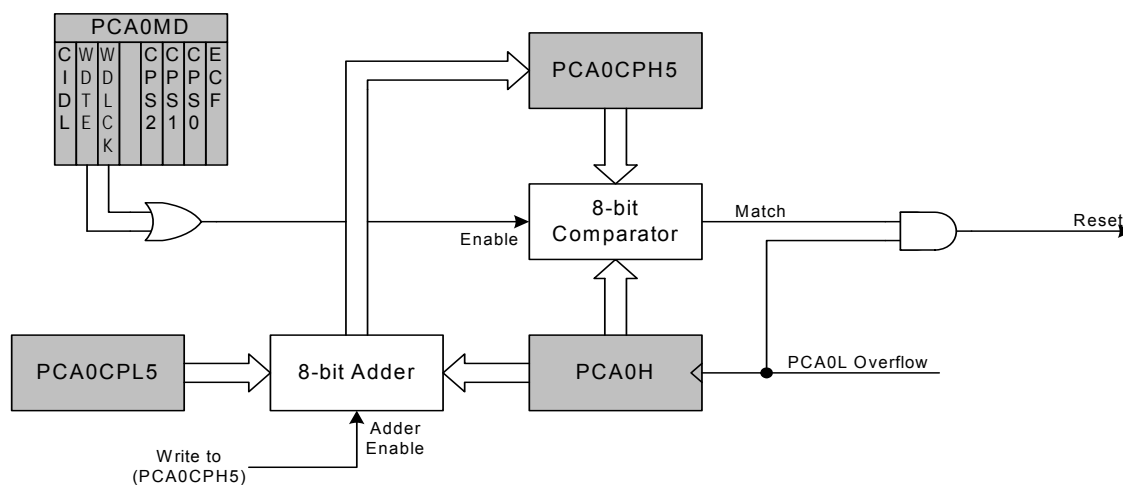

Figure 28.11. PCA Module 5 with Watchdog Timer Enabled
While the WDT is enabled, writes to the CR bit will not change the PCA counter state; the counter will run until the WDT is disabled. The PCA counter run control bit (CR) will read zero if the WDT is enabled but user software has not enabled the PCA counter. If a match occurs between PCA0CPH5 and PCA0H while the WDT is enabled, a reset will be generated. To prevent a WDT reset, the WDT may be updated with a write of any value to PCA0CPH5. Upon a PCA0CPH5 write, PCA0H plus the offset held in PCA0CPL5 is loaded into PCA0CPH5 (See Figure 28.11).